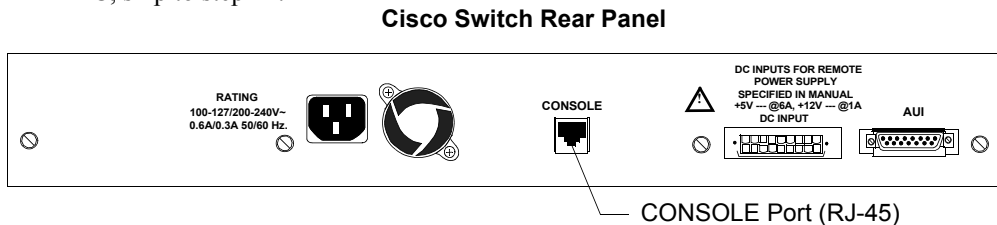

Figure 4-18 CONSOLE Port for Setting Cisco Switch IP Address
- Step 3.** Plug the RJ-45 end of the Console cable into the **CONSOLE** port on the rear of the Cisco switch, as shown in Figure 4-18. If the Database Server is not the configuring PC, skip to step 12.